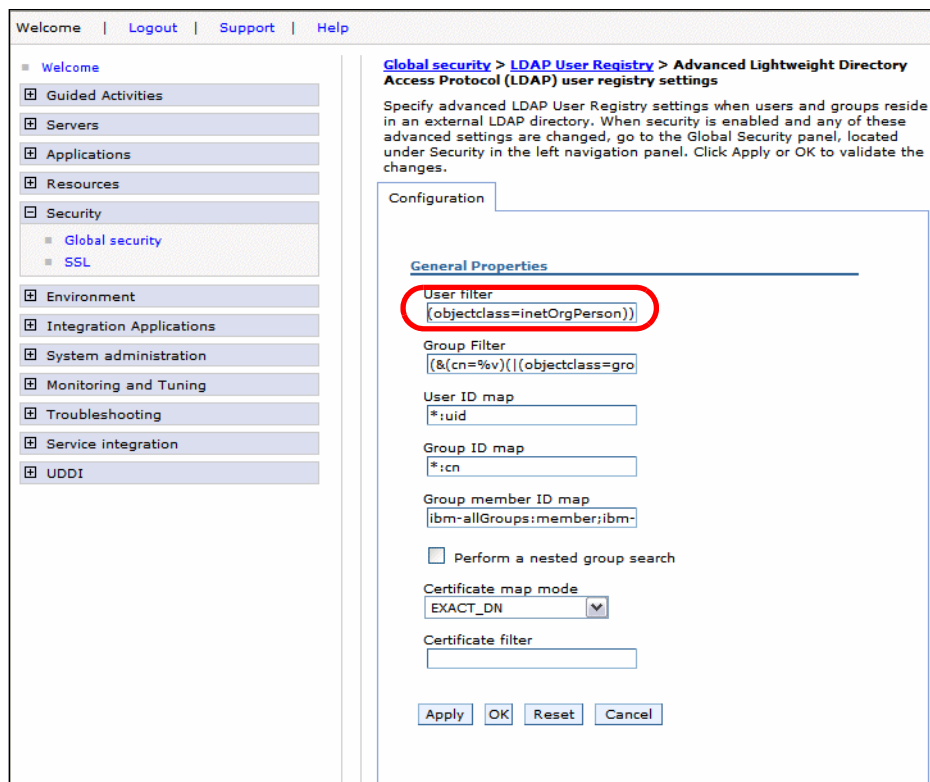

Figure 11-22 Enable security: Advanced LDAP user registry settings
- ▶ We want to be able to look up users by their user ID, so change the setting for User filter (Figure 11-22):